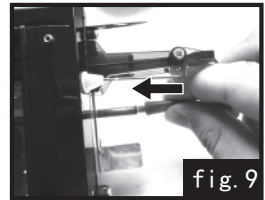

fig. 9
- 9.Add lubrication oil to the tail of main shaft tube,fig.9.